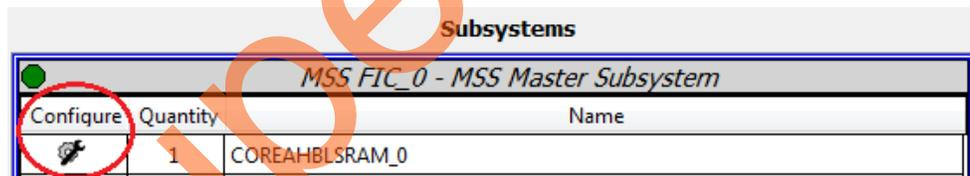

Figure 9 • CoreAHBLSRAM Configuration
8. Configure COREAHBLSRAM_0, by clicking Configure icon as shown in Figure 9.